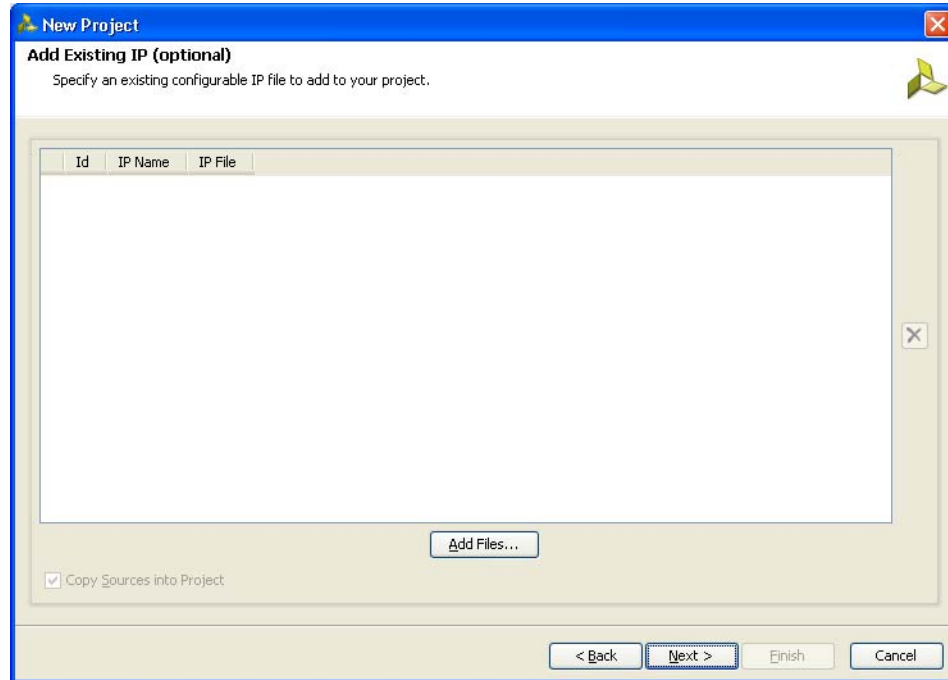

Figure 4-6: Add Existing IP (Optional)
6. Click **Next** to open the **Add Existing IP (Optional)** page (Figure 4-6). If the IP is already created, the XCI file generated by the IP can be added to the project and the previous created IP files are automatically added to the project. If the IP was not created earlier, proceed to the next page.